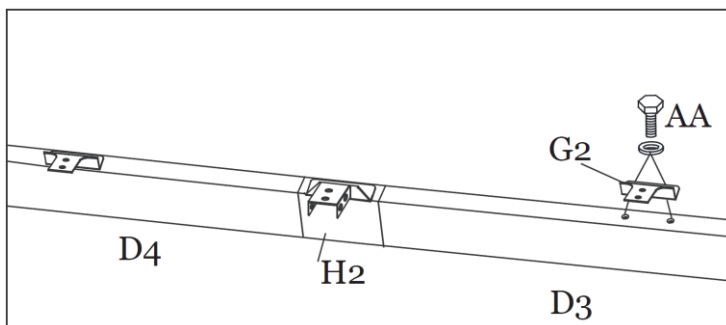

Figure 3-4
Step 3C: Attach the Lintel Bracket (G2) to the Long Lintel Bracket (D3). **Tighten all Bolts.** See Figure 3-4. Repeat for opposite side.